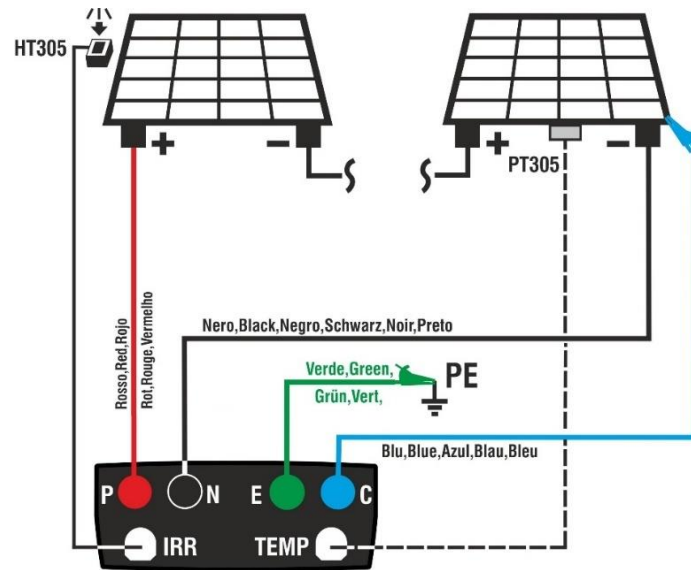

Fig. 12: Connection for IVCK tests without remote unit and direct irradiation measurement
7. Connect the instrument to the PV module/string being tested and to the main earth node of the system, and to the metal masses connected to earth as shown in Fig. 12. In particular, connect the Negative pole output from the module/string to the **N** terminal, the Positive pole output from the module/string to the **P** terminal, the HT305 reference cell **on the front of the module** and the possible PT305 temperature probe on the rear of the module